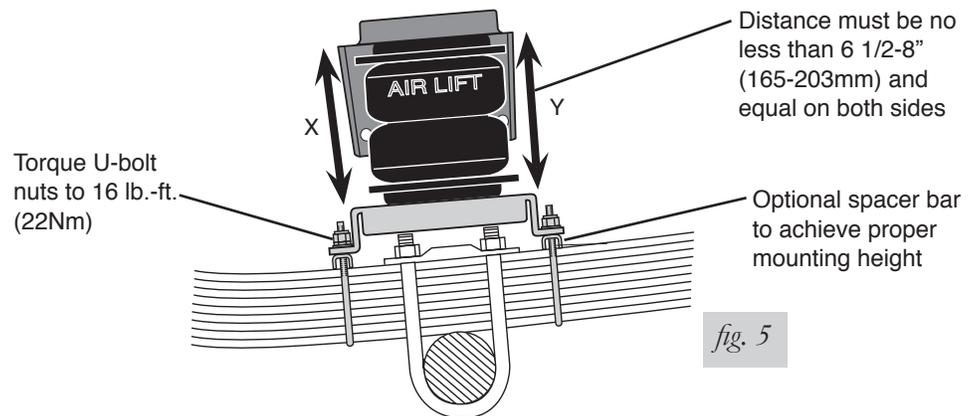

fig. 5
1. There must be 6 1/2" to 8" (165-203mm) between the upper bracket and the lower bracket (distances X and Y) to install the air spring (Fig. 5). It is best to use the highest envelope available between the upper and lower bracket.
- Measure the X and Y distance (mounting envelope) (Fig. 5). If this distance is less than 6 1/2" (165mm), you will have to cut the tops of the U-bolts off and remove the spacers previously installed. The lower bracket must sit flush on the leaf spring.